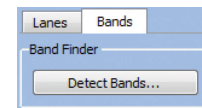

Fig. 6. Band detection of the chemiluminescent blot.
- With chemiluminescent blot highlighted in yellow, detect the bands in the chemiluminescent blot by selecting the **Bands** tab and then **Detect Bands** (Figure 6). Select the appropriate detection sensitivity setting and click **Detect**